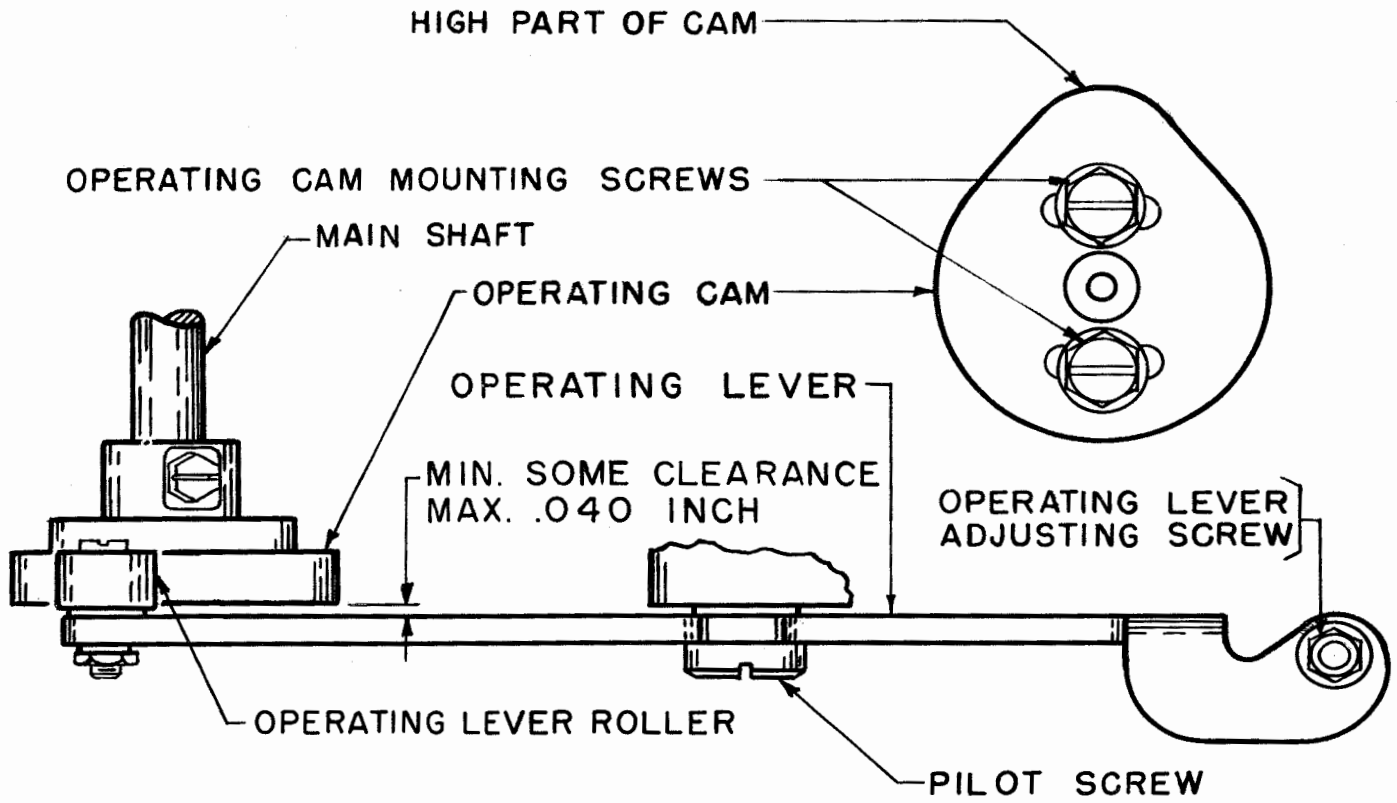

Figure 1
2.01 Main Shaft: Rotate the main shaft until the operating lever roller just starts to ride up the high part of the cam. Position the main shaft so that there is some clearance between the lower surface of the cam and the upper surface of the operating lever when all the play of the operating lever is taken up in a direction to make the clearance a minimum. When the play in the operating lever is taken up in the direction to make the clearance a maximum, this clearance shall not exceed 0.040 inch. (See Figure 1.)